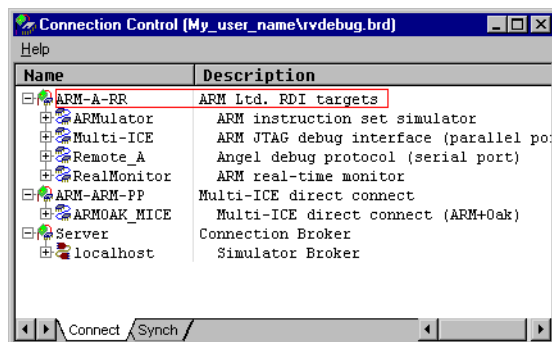

Figure 3-37 RealMonitor in the Connection Control window
2. Select **File** → **Connection** → **Connect to Target...** to display the Connection Control window, shown in Figure 3-37.